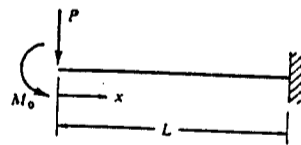

Fig. 5.
- Determine the displacements of a beam (see Fig. 5) by Castigliano's second theorem. (15%)